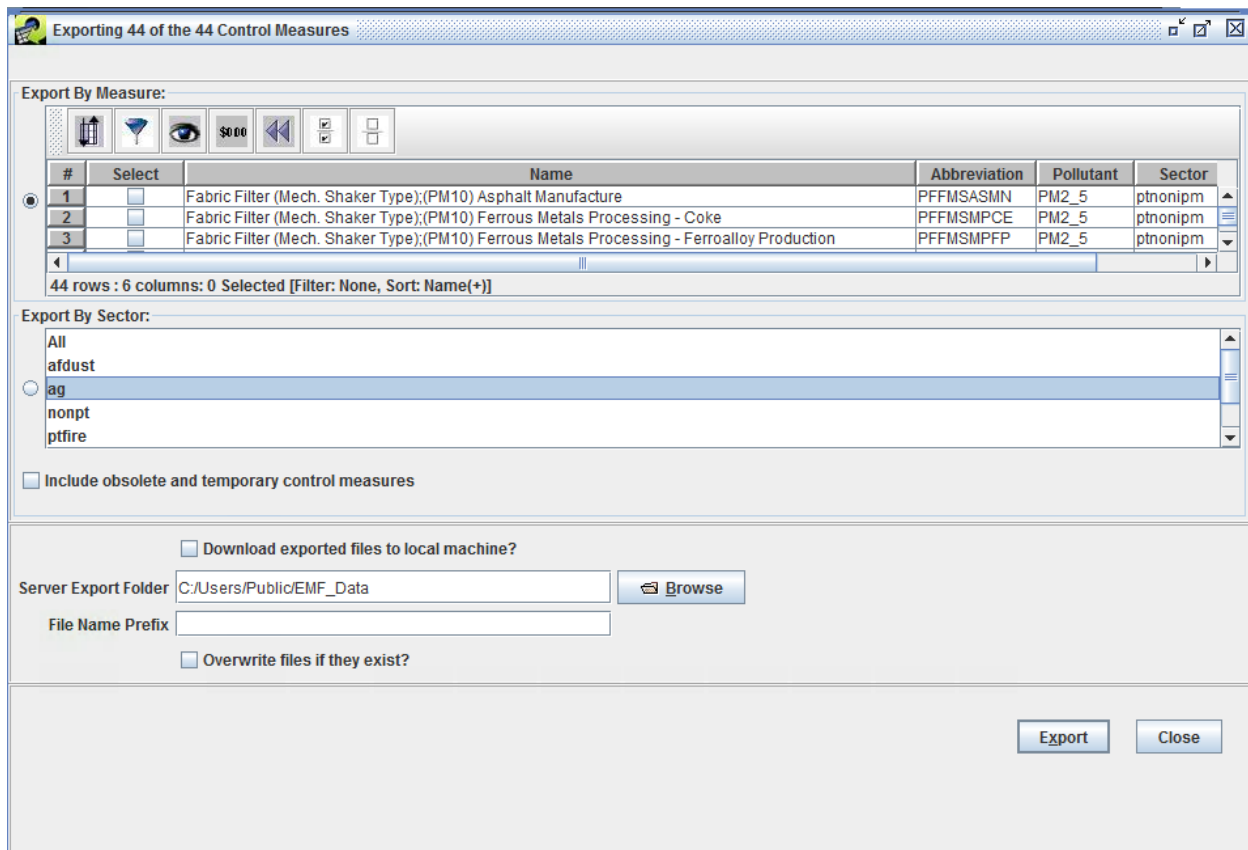

Figure 3.28: Exporting Control Measures Dialog
Click the **Select all** button on the Control Measure Manager toolbar, and then click the **Export** button. The Exporting Control Measures window (Figure 3.28) will appear.
**Step 9-3: Import Control Measures.** If logged in as Administrator, click the **Import** button on the Control Measure Manager to start importing measures. In the **Import Control Measures** window that appears (Figure 3-28), type or paste the name of the import **Folder**. You may also use the **Browse** button to browse to a folder containing the files to be imported and select the files directly from the browser. Alternatively, enter the folder name and then type in a **pattern** to specify the files, then click **Apply Pattern**. When using a pattern, an asterisk (\*) will be expanded to the available file names.